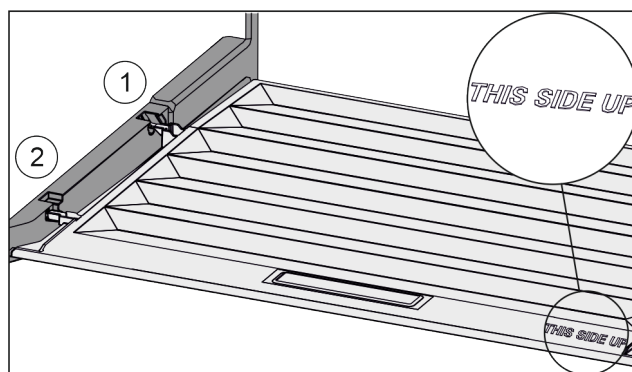

Fig. 36
- ▶ Insert the lip of the cover over the opening of the rear bracket *Fig. 36 (1)* and click into place *Fig. 36 (2)*.